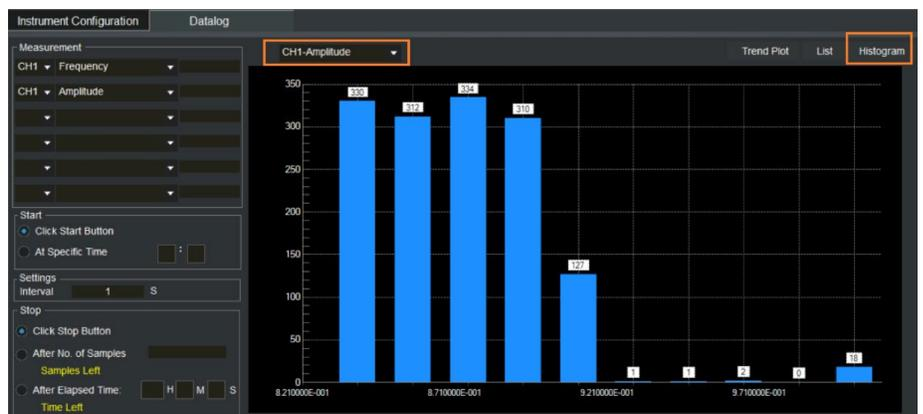

Figure 7: Histogram.
- iii. Histogram: Check the distribution of the measurement results. As shown in **Figure 7**, most of the amplitude values are <math><0.92\text{ V}</math>.